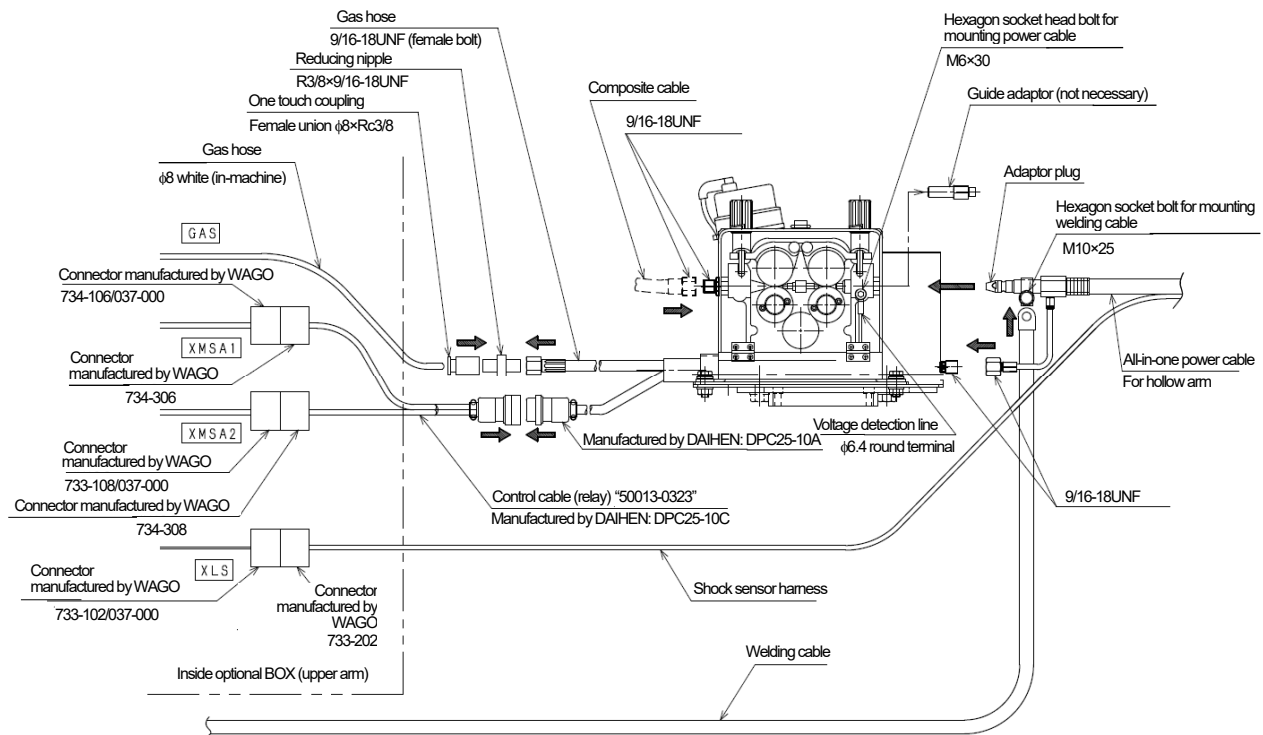

Figure 1.9 Connection of control cable and gas hose (BA006N/L)
2. Referring to Figure 1.9, connect the connectors (XMSA1, XMSA2) with the cable provided inside the optional BOX and the control cable (relay) (option). In addition, take out the gas hose inside the optional BOX, attach the reducing nipple (option) and one touch coupling (option), and connect them with the gas hose of the wire feeder.